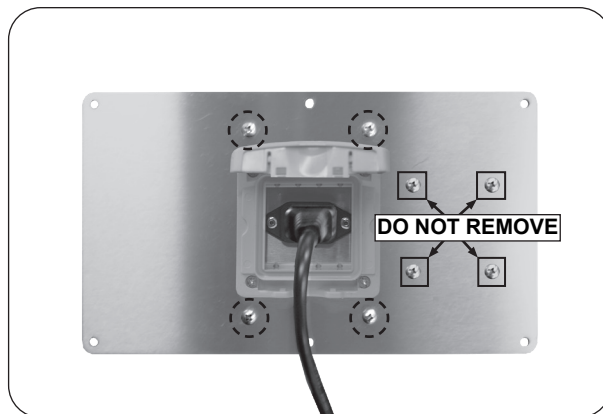

Fig. 39-3 Remove 4 small screws
4. Remove the 4 small screws that surround the power supply cord connection (see Fig. 39-3).